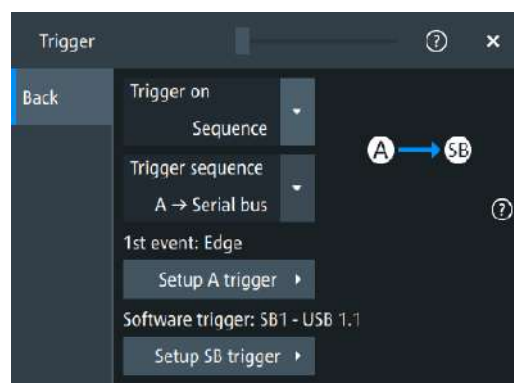

Figure 14-60: Serial bus Trigger setup dialog for USB 1.1
- In the "Trigger" tab (Figure 14-60):